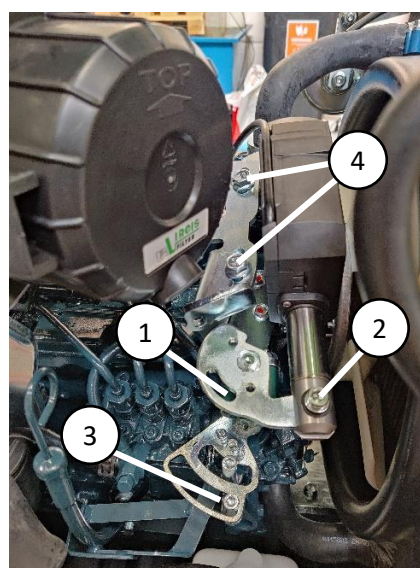

Figure 27. Throttle motor max. position
Change the throttle linkage bearing (figure 27 (1)) if it is worn loose. In the process, check the throttle motor play and change the mounting bolts' bearings, if necessary (figure 27 (2)). After this, check the adjustment of the throttle motor.
To adjust the motor set the diesel throttle motor position to 100 % (99 – 100 %) on the display "Service tools". Make sure that the throttle lever (figure 27 (3)) goes into its maximum position. If it needs to be adjusted, loosen the bolts (figure 27 (4)) and push the throttle motor so the lever is in its maximum position. Tighten the bolts.